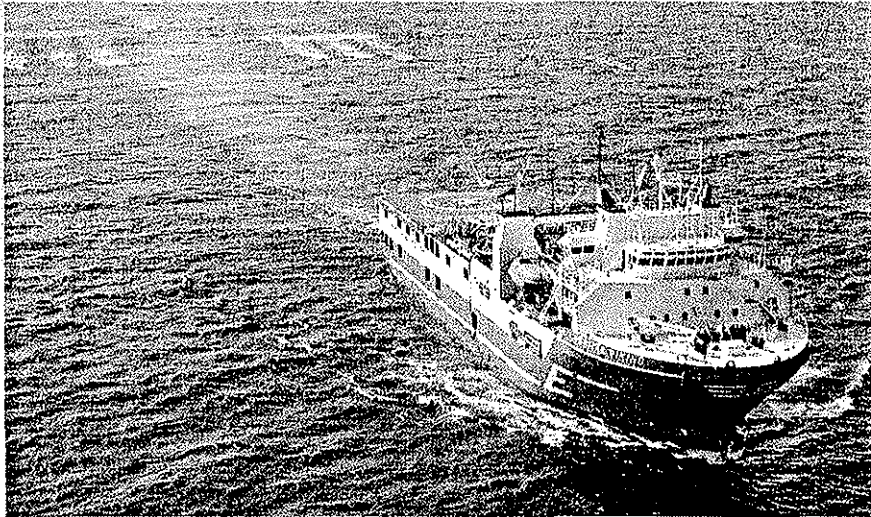

Fig. 2–20. Seismic vessel. The wake far behind the vessel is formed by the hydrophone streamers being towed. Courtesy of Veritas DGC.
**Acquisition.** Onshore or offshore, the object of this phase is to collect seismic data that present a picture of the subsurface rock layers and their structuring. Onshore, a team of “jug handlers” place a series of sensors, called *geophones* or jugs, for thousands of yards around a spot, the *shot point*, at which they will release large shock waves. Offshore, seismic vessels like the one in figure 2–20 tow *streamers*, plastic tubes that extend up to 30,000 feet in length, behind the boat. The plastic tubes contain *hydrophones*, thousands in each streamer. The vessel also tows air guns, the seismic source, a short distance behind the boat. These guns are filled with compressed air, and when they open abruptly, they release the air with a bang, like a popped balloon. As that happens, the classic seismic data gathering takes place (fig. 2–21).